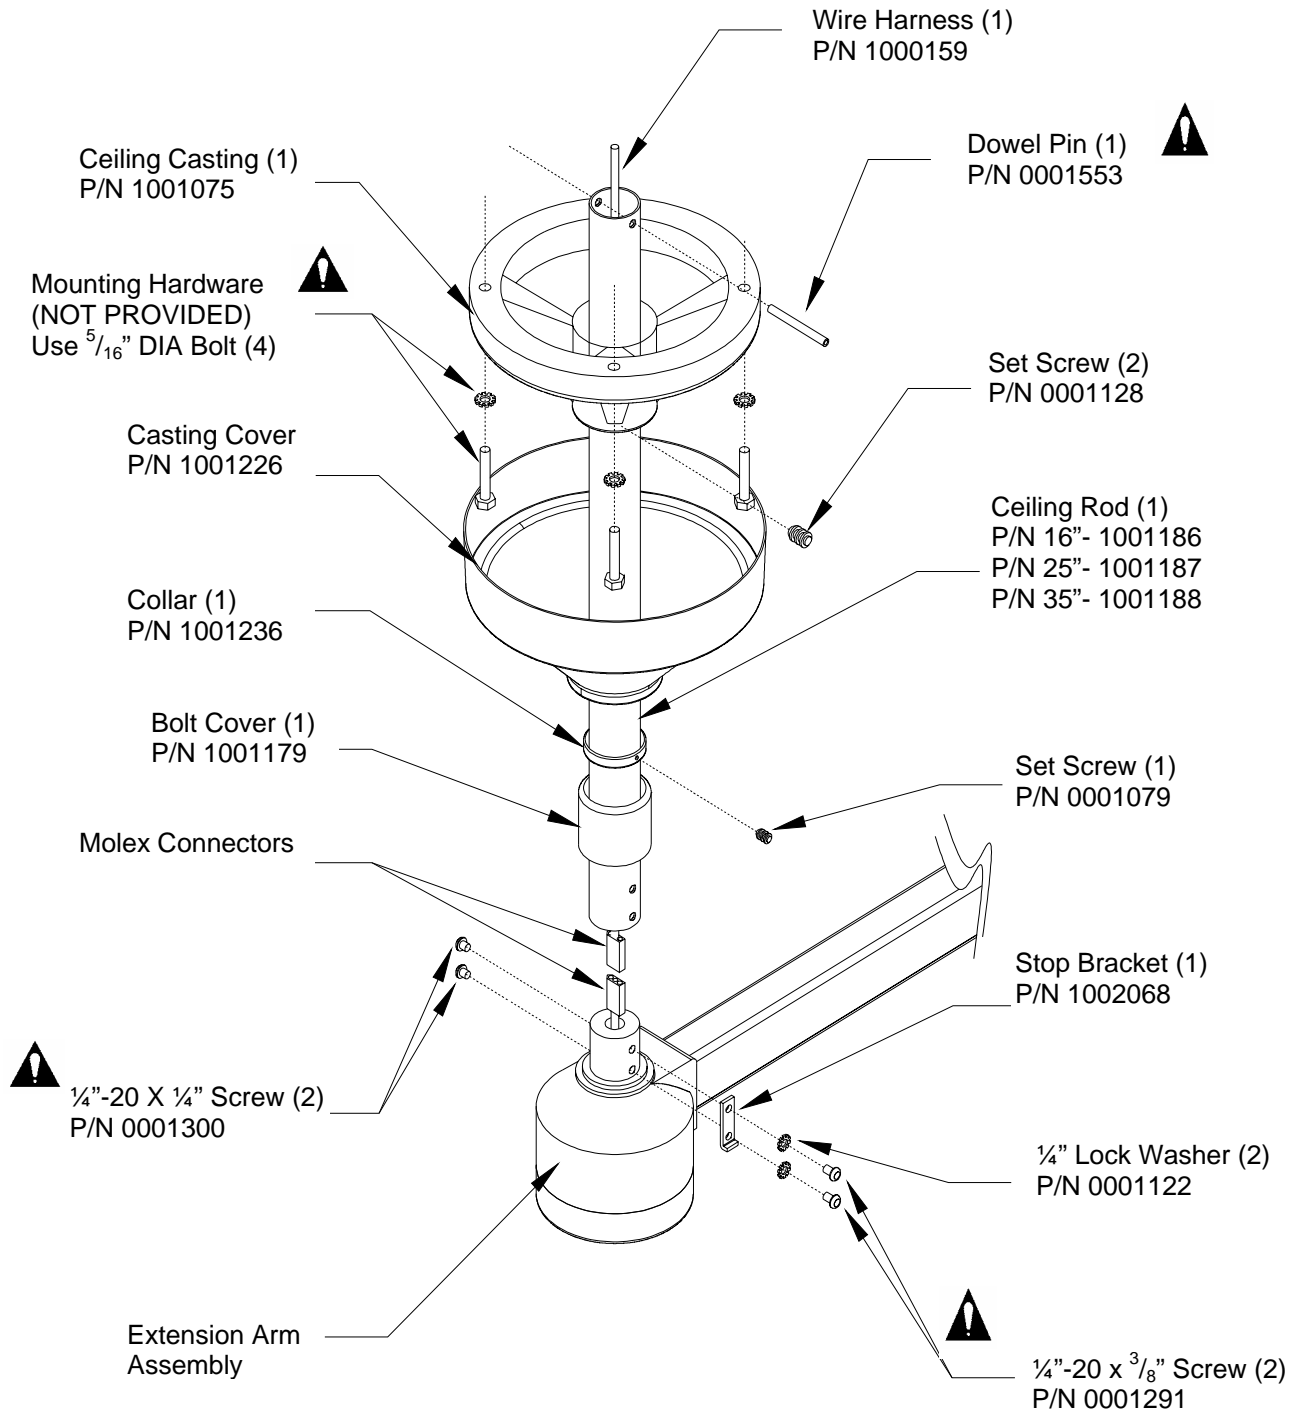

FIGURE 5: Single Ceiling Mount Installation
- Insert the ceiling rod up through the ceiling casting until the hole in the ceiling rod becomes visible (see figure 5). Insert the dowel pin into the hole in the ceiling rod and lower the rod in the ceiling casting, making sure the pin is seated securely in the indentation on the ceiling casting. Securely tighten the two set-screws located in the casting.